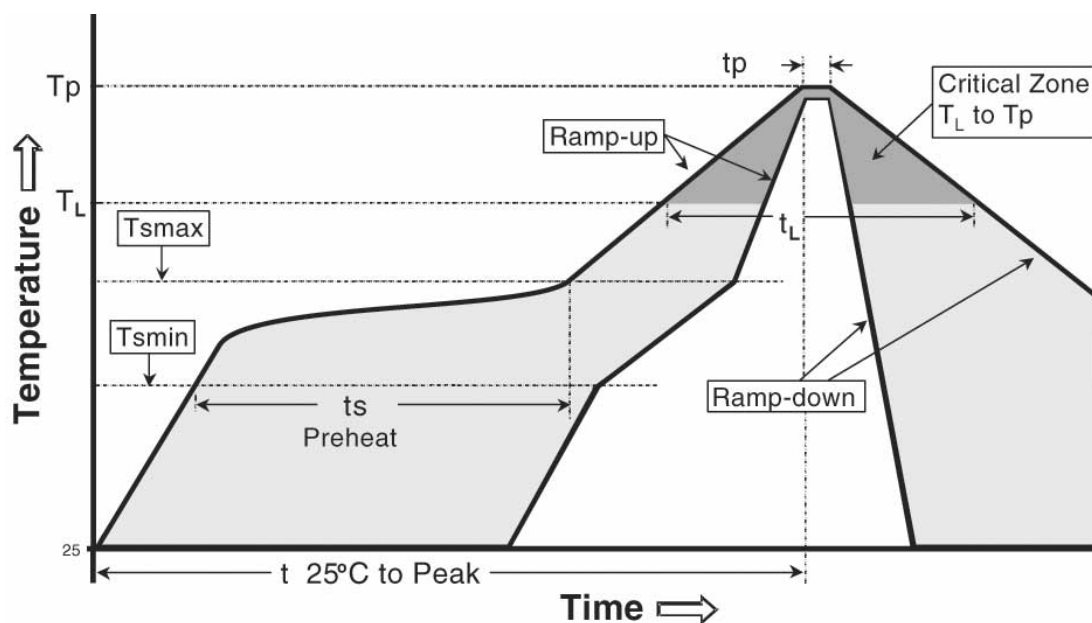

Figure 20 – Temperature profile.
2. Perform a reflow process according to the temperature profile detailed in Table 9, Figure 20.